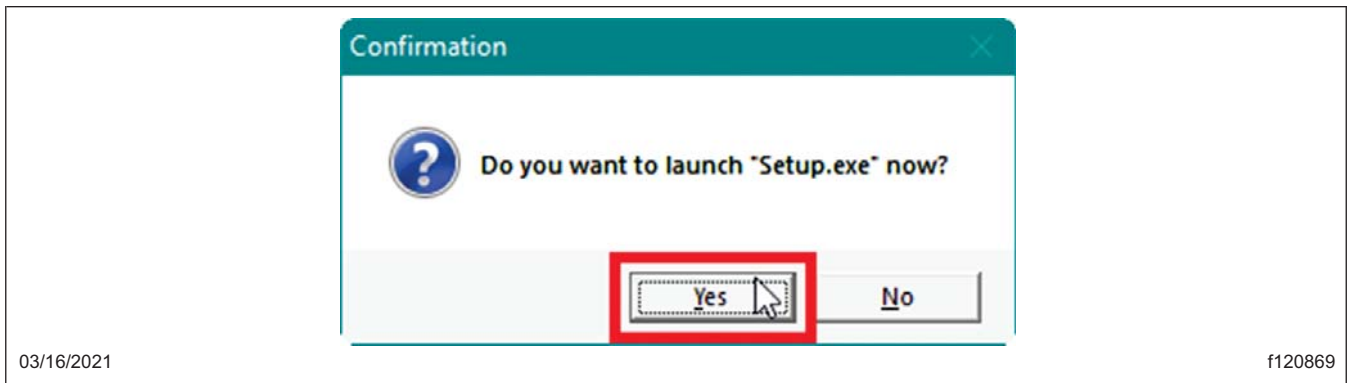

Fig. 9, Launching the Set-Up of the mBSP Executable File
- 7.3 When the extraction is finished, a window will open asking if the user wants to launch 'Setup.exe.' Select 'Yes.' See Fig. 9.